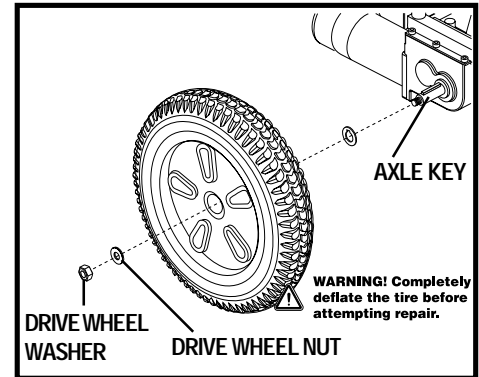

Figure 23. Drive Wheel Removal
4. Remove the drive wheel nut and washer from the axle. See figure 23.